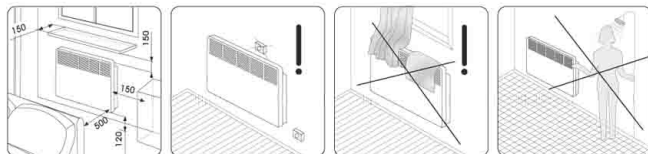

Fig. 4
**Wall mounting of the convector (Fig. 4, 5, 6)** dimensions are given in mm.